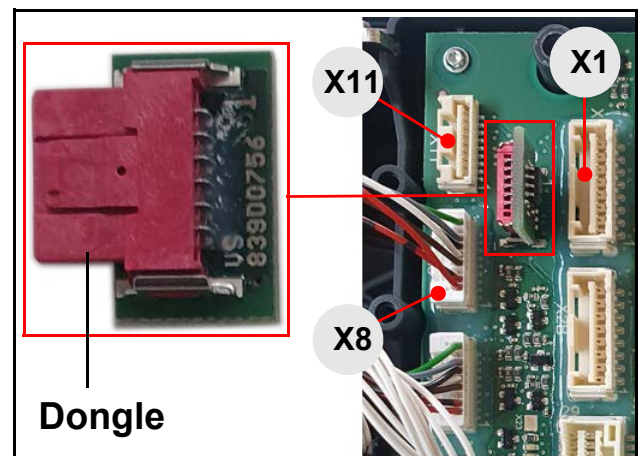

Figure 57
Plug X29 (81314085, Figure 57, pos. 1) may be damaged when removing the main board.